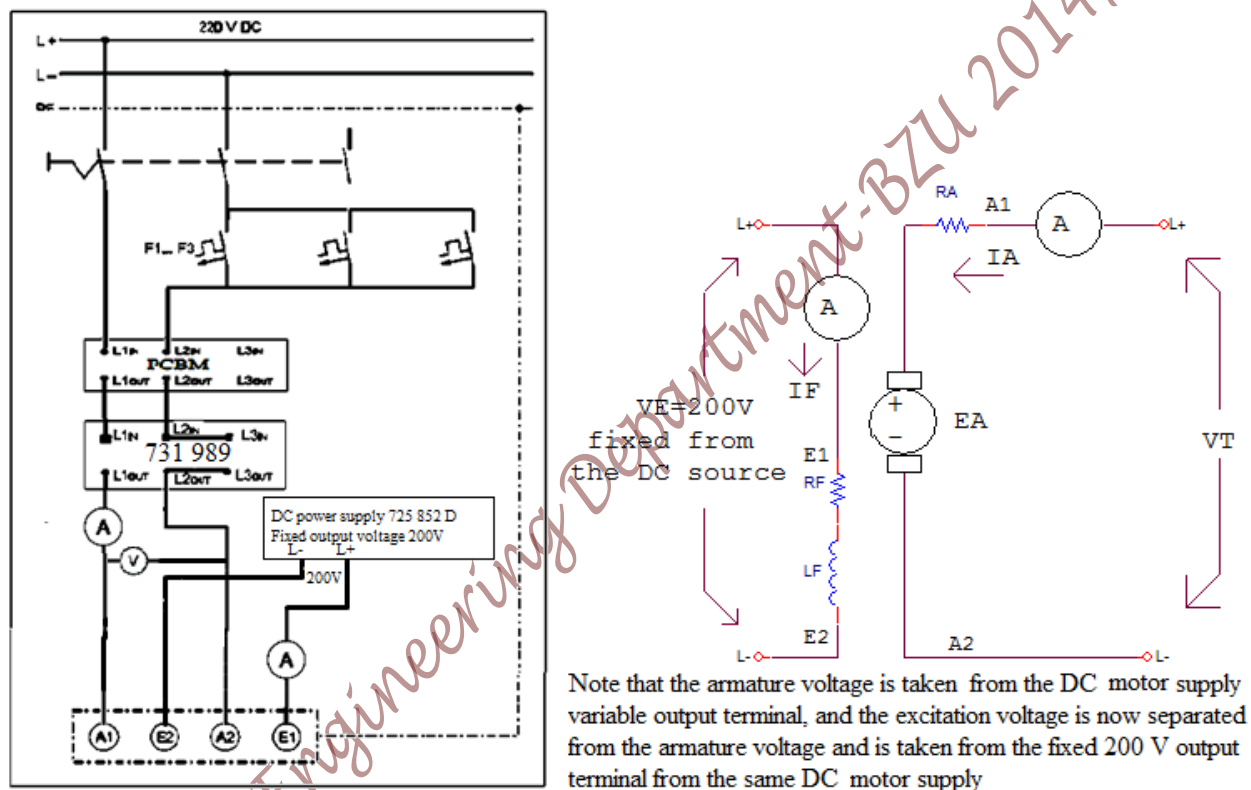

Figure 8.3: Circuit for studying the effect of changing the armature voltage on the SE DC Motor behavior
1. Make the necessary connection changes for the circuit to match Figure 8.3, note that you have to remove the Field Regulator Generator resistor, and to connect the excitation winding to the fixed terminal of the DC power supply, the rest of the connection are the same